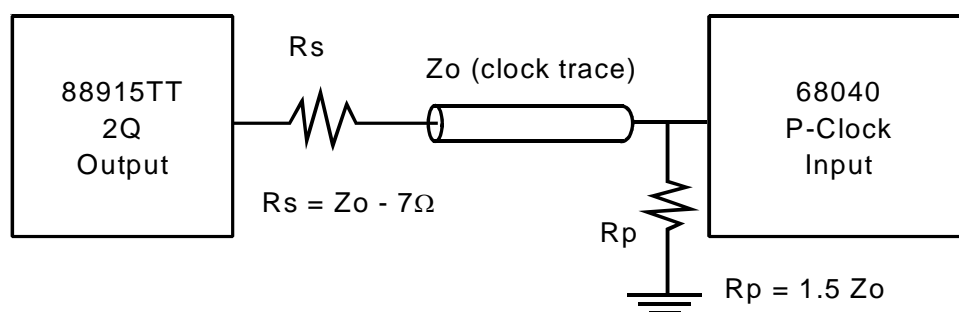

Figure 1. MC68040 P-Clock Input Termination Scheme
- These two specs ($t_{RISE/FALL}$ and $t_{PULSEWIDTH}$ 2Q output) guarantee that the FCT88915TT meets 68040 P-Clock input specification. For these two specs to be guaranteed by IDT, the termination scheme shown in Figure 1 must be used: